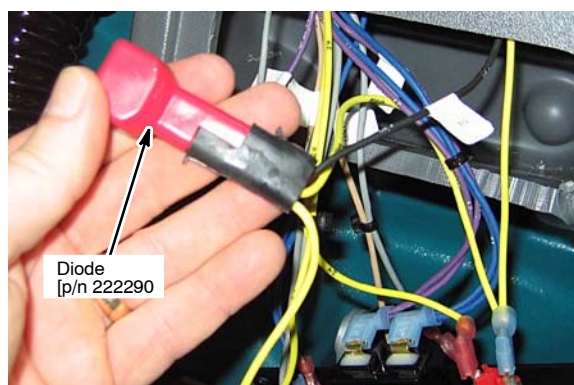

Fig. 25
9. Connect diode [p/n 222290] to the *ec-H2O* harness as shown (Figure 25).